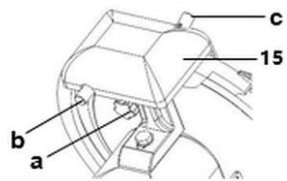

Fig. 10
7. Hold the depressed button (b, Fig. 10) of the sharpener on the back of the sharpener (1) and leave the appliance switched on for approx. 60 seconds, until the blade is burred.